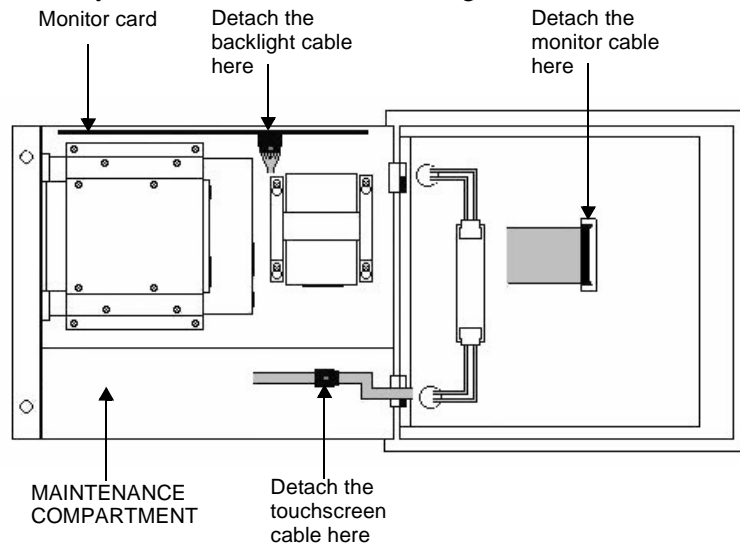

Figure 3: Disconnecting P9 Cables
7. If you have a P9, detach the three cables connecting the faceplate assembly and backshell, as shown in Figure 3.
Warning When lifting the backshell, grasp it from the outside. Be careful **not** to touch the monitor card, located inside the top of the maintenance compartment. The monitor card is shown in Figure 3 on page 3.
Warning When lifting the backshell, grasp it from the outside. If you have a P9, be careful **not** to touch the monitor card, located inside the top of the maintenance compartment. The monitor card is shown in Figure 3 on page 3.